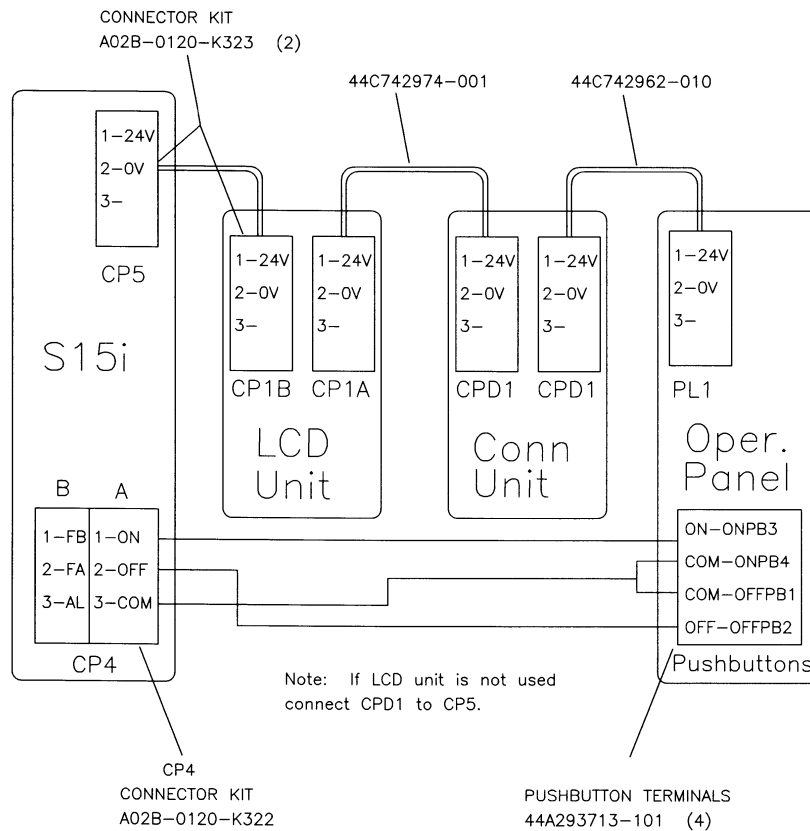

Figure 1-9. Power Supply Connection Installation for Series 15i Control
2. Using the stab-on terminals provided, construct an ON/OFF cable of the proper length from Connector CP4 on the Series 15*i* CNC to the ON and OFF pushbuttons on the Operator Panel. For more detailed wiring information, refer to Figure 1-9 below and the Hardware Connection Manual for the Series 15*i* CNC.
The recommended cabling for the 24VDC power and for the ON/OFF circuitry is illustrated in Figure 1-9 on the following page. However, other configurations are possible. For help with other configurations, please contact your local GE Fanuc sales or applications engineer.